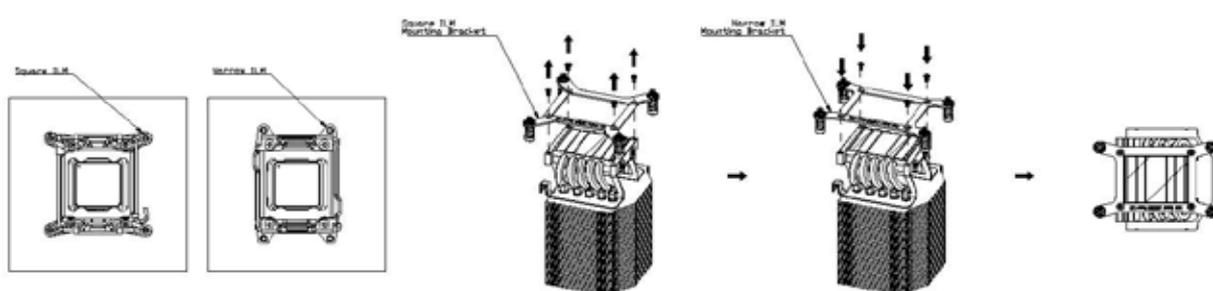

Figure 1
2. By default, the square ILM mounting bracket is pre-attached on the bottom of the heat sink. If the motherboard is equipped with narrow ILM, follow the instruction in Figure 1 to replace the default square ILM mounting bracket with the narrow ILM mounting bracket.